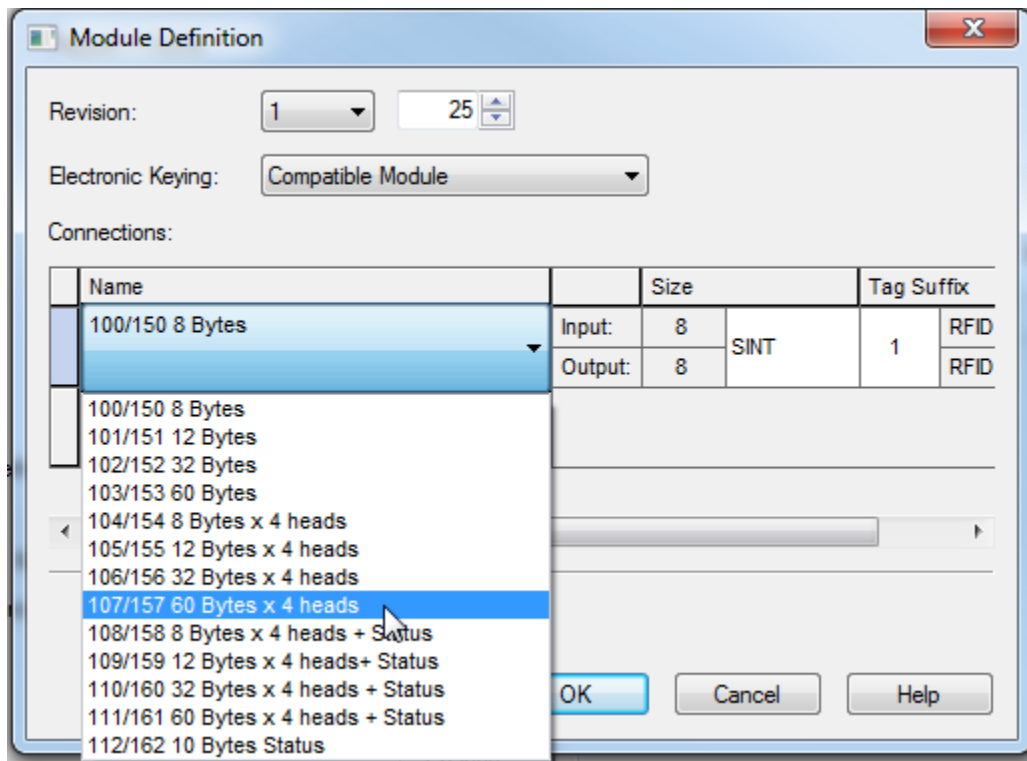

Figure 10: Pick the assembly instance from the list
Step 5: Select the assembly instance that you want to use from the list. See Figure 10.